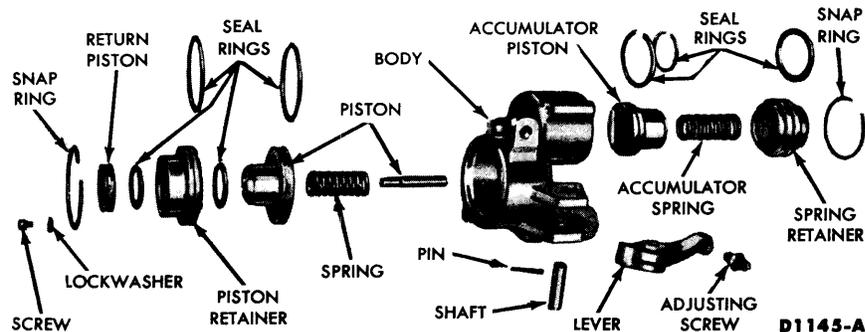

FIG. 23—Front Servo
1. Remove the servo piston retainer snap ring (Fig. 23). **The servo piston is spring loaded. Apply pressure to the piston when removing the snap ring.**
7. Inspect the servo body for cracks and the piston bore and the servo piston stem for scores (Fig. 23). Check the fluid passages for obstructions.